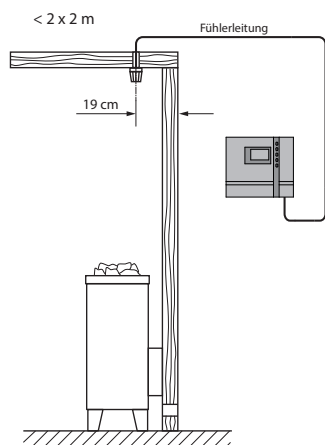
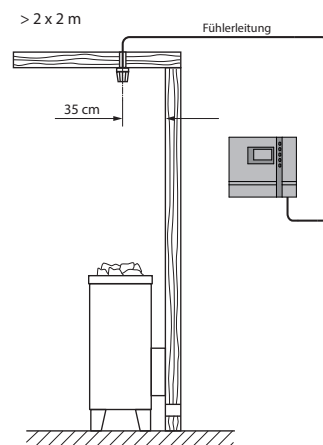

Fig. 7
Fig. 8
1. Mount the oven sensor in cabins up to 2 x 2 m according to Fig. 7 and 9, in larger cabins according to Fig. 8 and 9.